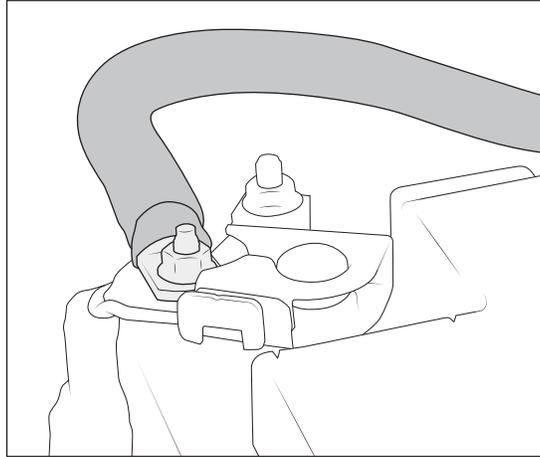

Figure 14
18. Route the negative lead alongside the battery and connect to the negative terminal (fig. 14).